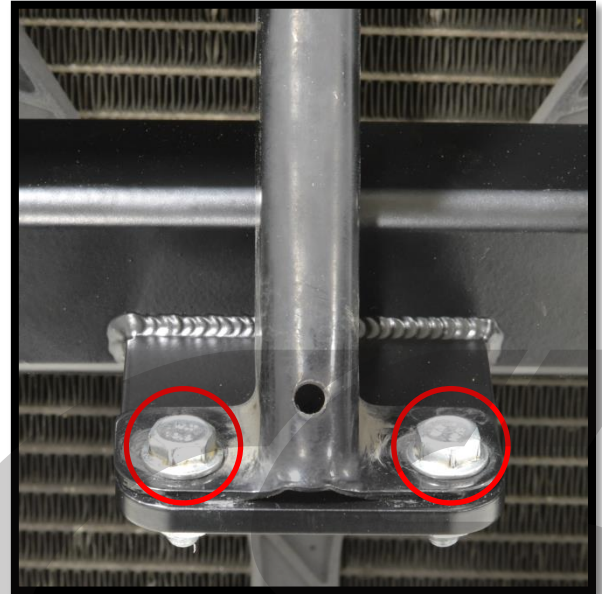

Figure 7a
- a) Loosely bolt the CorkSport Crashbar to the OE hood latch support using two (2) supplied M6 bolts and nuts (10mm head size). **Figure 7a** shows the bolts with **red circles**.